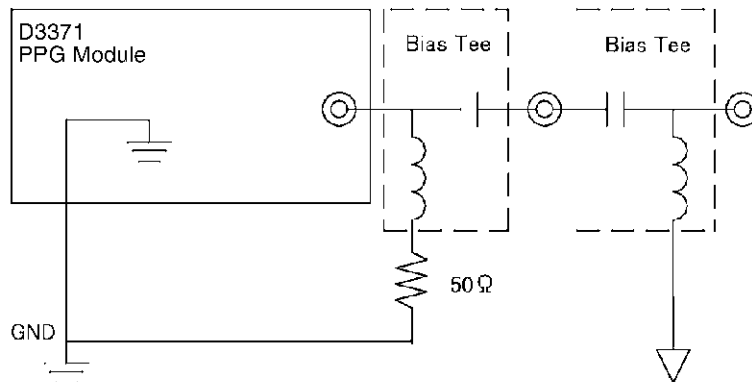

Figure-2 Addition of a direct current voltage
2. To remove the direct current component from the output of this product, use a Bias Tee as shown in Figure-2.
To add a direct current voltage after the direct current component is removed, use two Bias Tees, as shown in Figure-2.